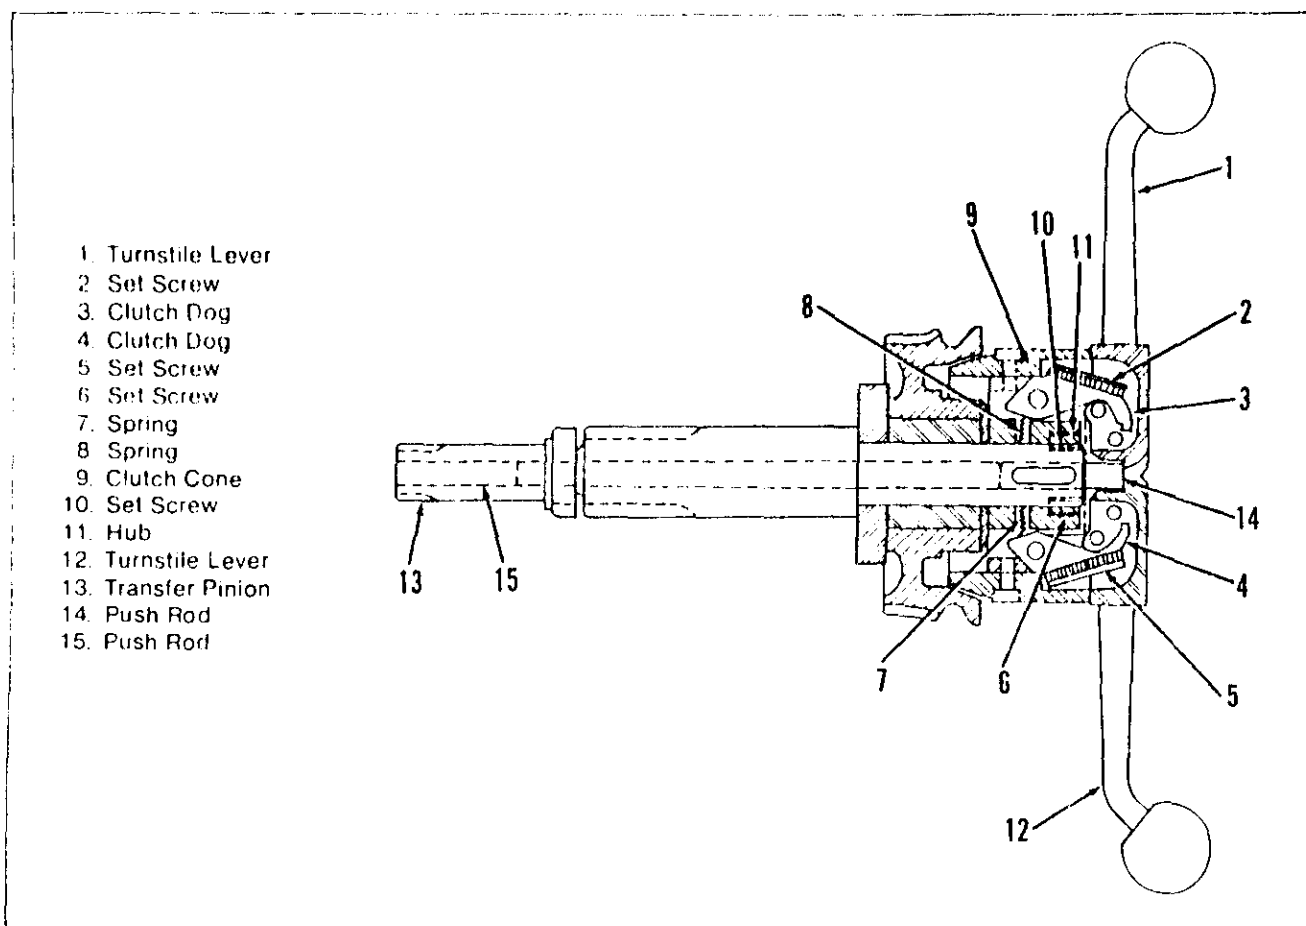
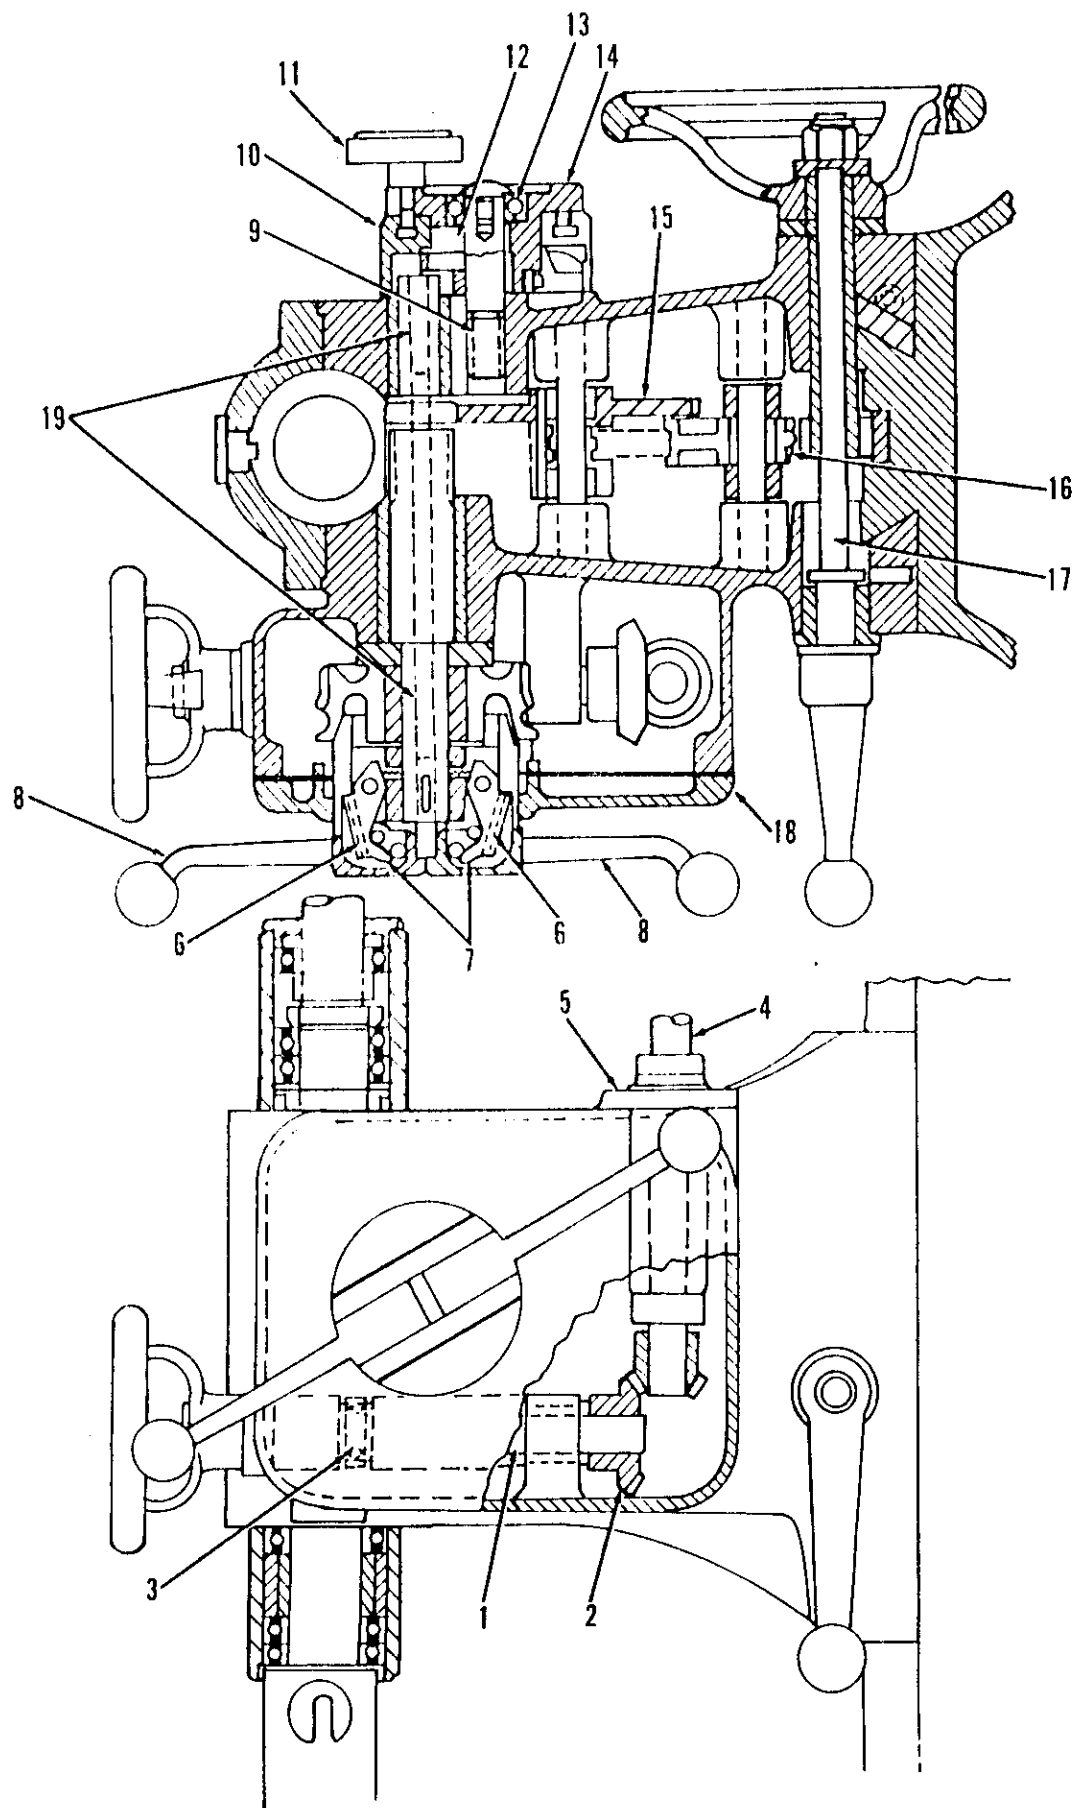

Figure M-5. Cross Spindle Assembly
Figure M-6. Sliding Head
8. Remove one of the turnstile levers (1 and 12, Figure M-5) and remove the screws and the cover (24, Figure M-6).
11. The cross spindle, worm gear and feed clutch assembly may then be removed as a unit. Push out the transfer pinion (13, Figure M-5).
CROSS SPINDLE DISASSEMBLY (Figure M-5)
CROSS SPINDLE REASSEMBLY (Figure M-5)
FEED DIAL ASSEMBLY (Figure M-6)
3. With spindle down near the end of rack travel, insert transfer pinion (13, Figure M-5) into the head and install the cross spindle assembly. Move spindle to the same location as when depth dial was removed and marked and re-install the depth dial.
LEGEND Figure M-6
- Be sure the push rods (19, Figure M-6) are in place in the cross-spindle.